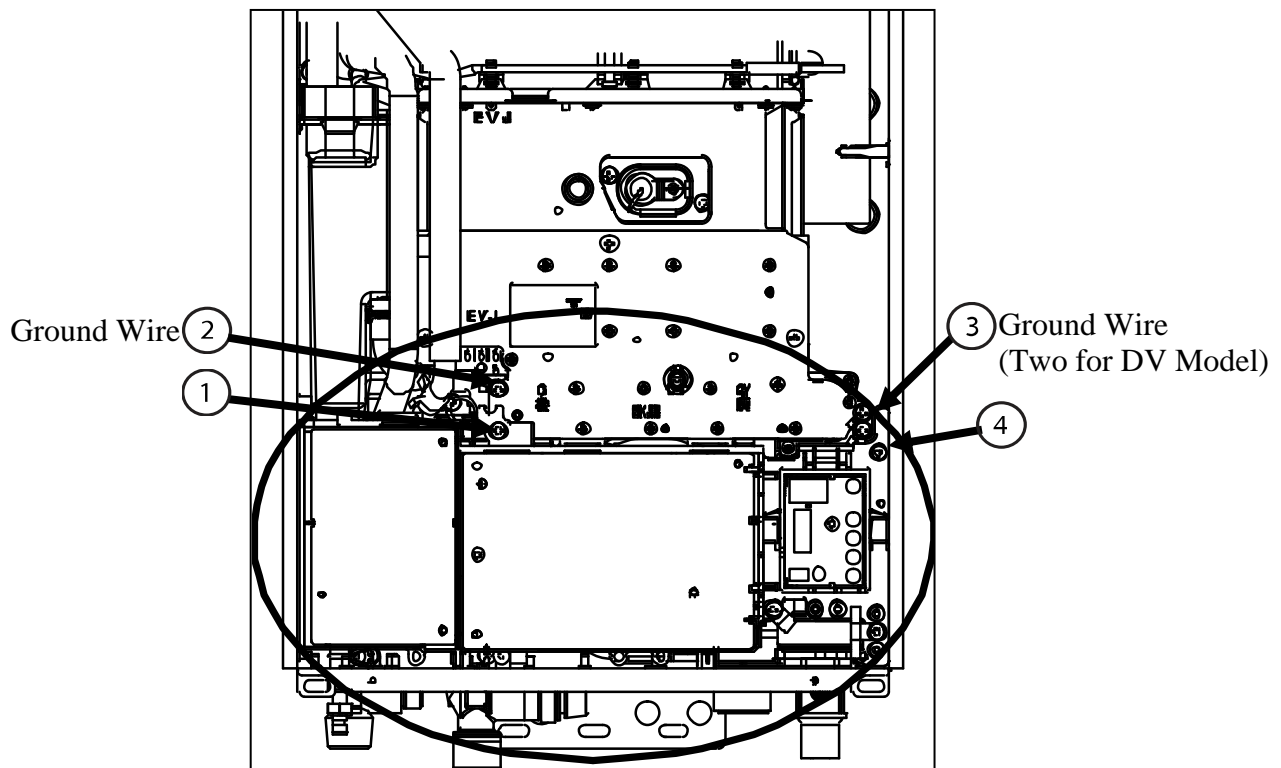

FIGURE 1
- 5) To access the manifold plate, the circuit board must be removed. To remove the circuit board, locate and remove the 2 screws holding the circuit board. Also 3 ground wire screws for DV models and 2 ground wire screws for the OD mode as indicated in Figure 1. Carefully remove the circuit board from the unit and lay it to the side with the wires still attached.